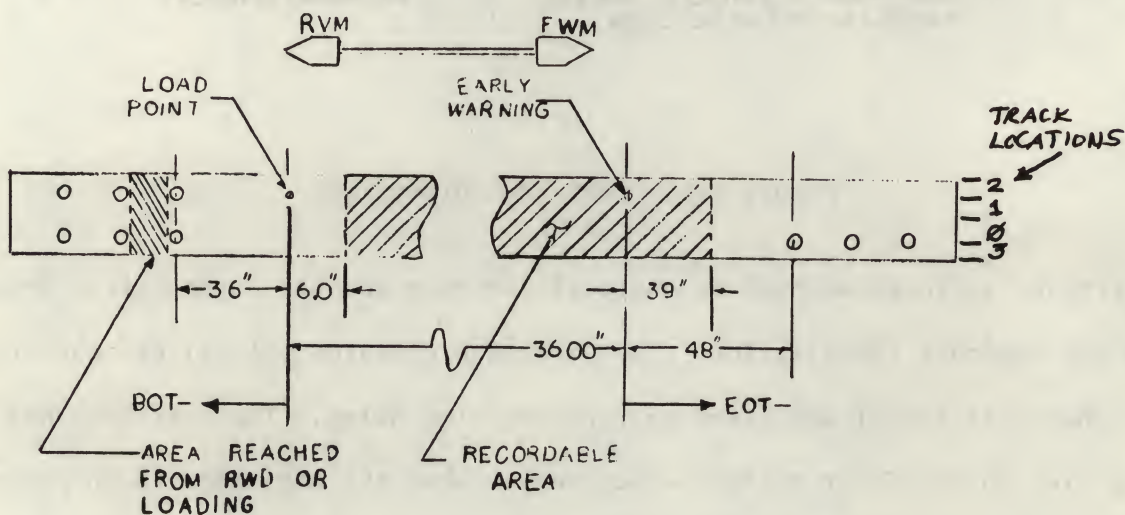

Figure 1-8. Tape Configuration
The magnetic tape length between Load Point (LP) and Early Warning (EW) shall be 300+10-0 feet. The tape position holes for Beginning of Tape (BOT), Load Point (LP), Early Warning (EW), and End of Tape (EOT) are shown in Figure 1-8.